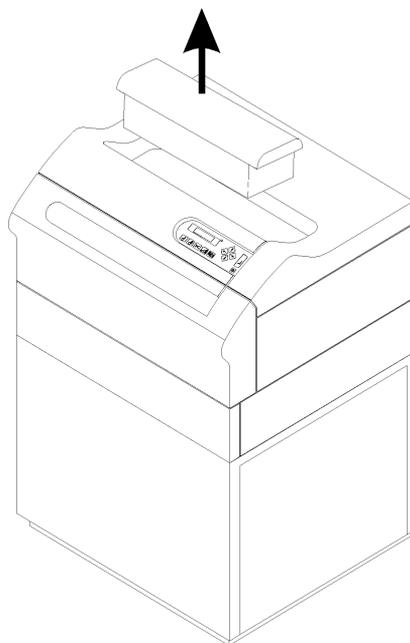

Fig.5
1. Remove the Take-up Cassette from the top of the machine by lifting it straight up. (Ref: Fig.5)